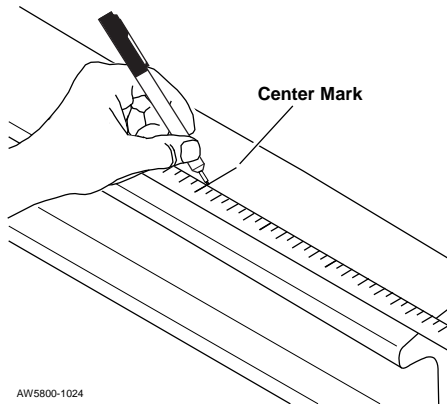

Figure 3. Marking the Center of the Steer Axle
1. Locate and mark the center of the steer axle. See Figure 3.
- Re-mark the center of the steer axle. See Figure 3.